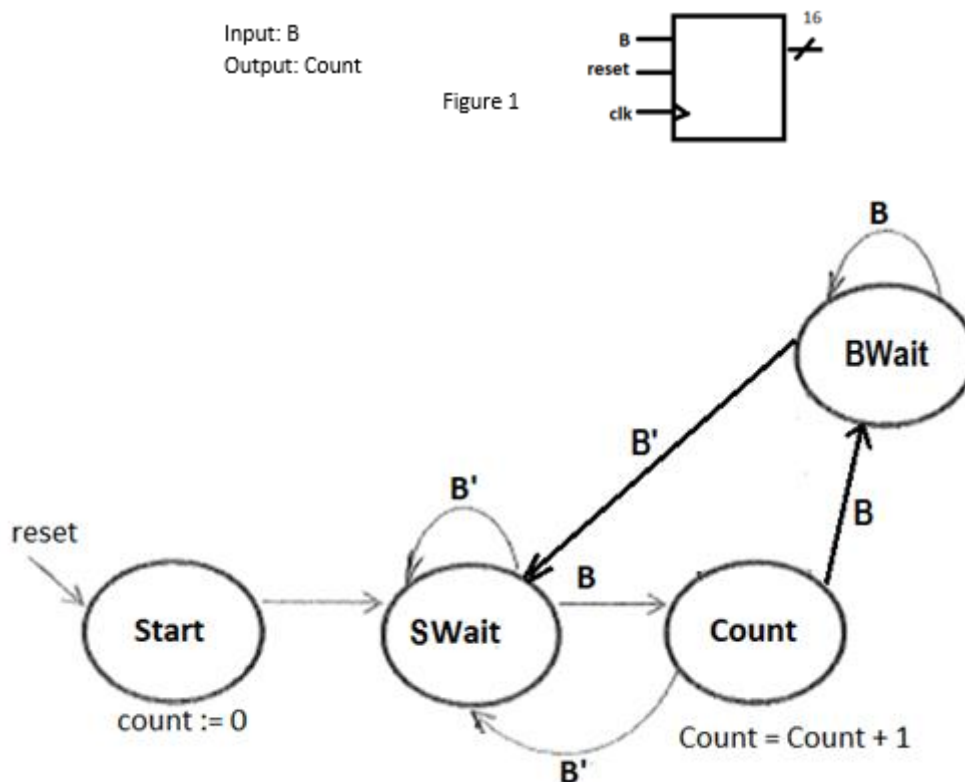

Figure 2 - FSMD
1. Figure 2 shows the FSMD state diagram for this system.